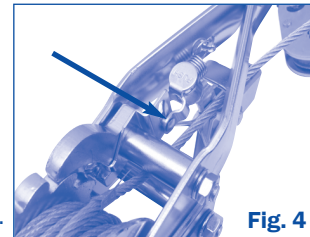

Fig. 4
- Move the pawl spring to the lower position to re-engage the drive pawl with the ratchet teeth as shown in Fig. 4.